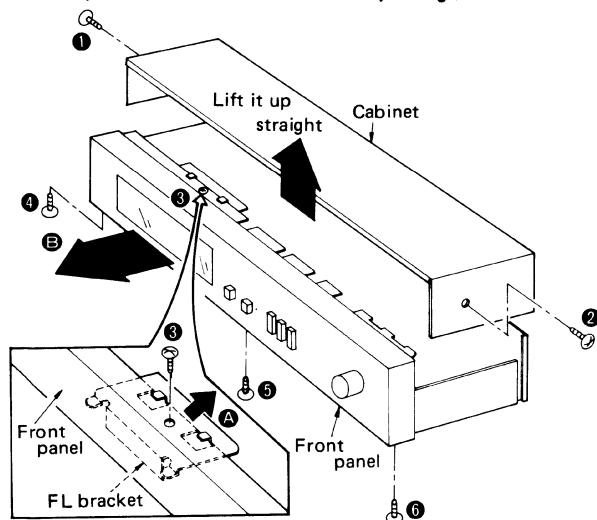

Fig. 1
- 1. Remove the 2 setscrews (Fig. 1 : ①, ②) of the cabinet.
- 2. Remove the 1 setscrew (Fig. 1 : ③) of the FL bracket and move the FL bracket in the direction of the arrow A in Fig. 1.
- 3. Remove the 3 setscrews (Fig. 1 : ④ ~ ⑥) of the front panel, and move the front panel in the direction of the arrow B in Fig. 1.